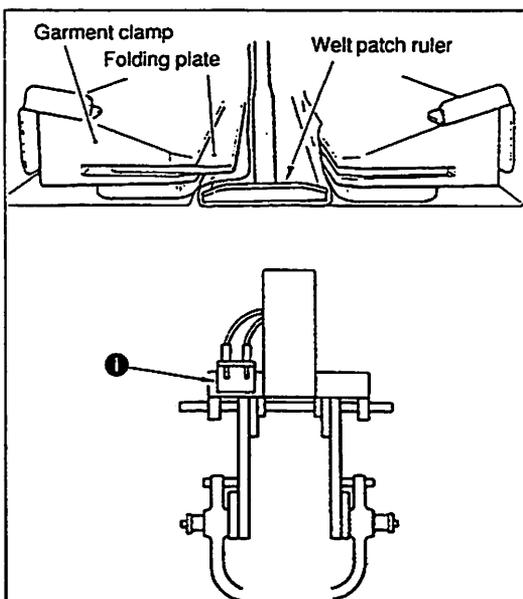

Fig. 99
To sew a single welt without using the folding plate as shown in Fig. 99, be sure to switch over mechanical valve ① (Fig. 99).